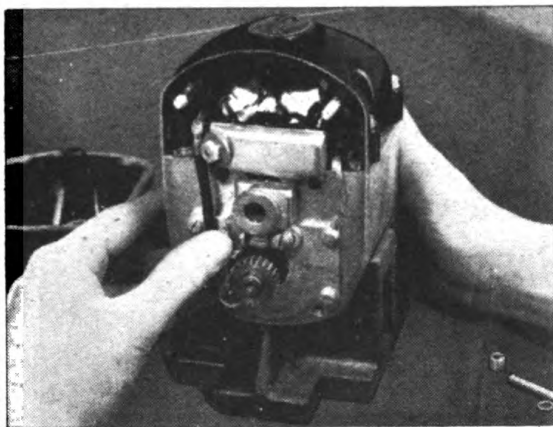

Fig. 46. Checking Breaker Arm for Free and Easy Operation
1. Test action of the breaker arm to be sure that it is free and operates easily. Fig. 46.
2. Examine contact points and make certain they are clean. Fig. 46.